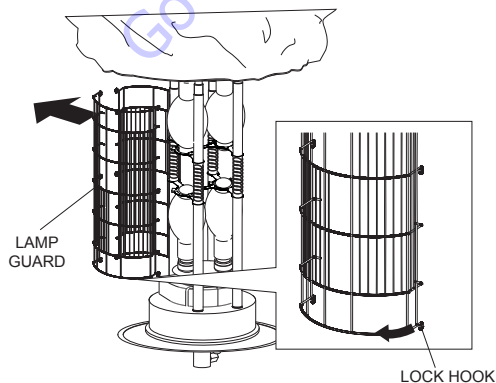

Figure 16. Removing Lamp Guard
2. Release the lamp guard hooks from the poles and remove the two lamp guards. See Figure 16.